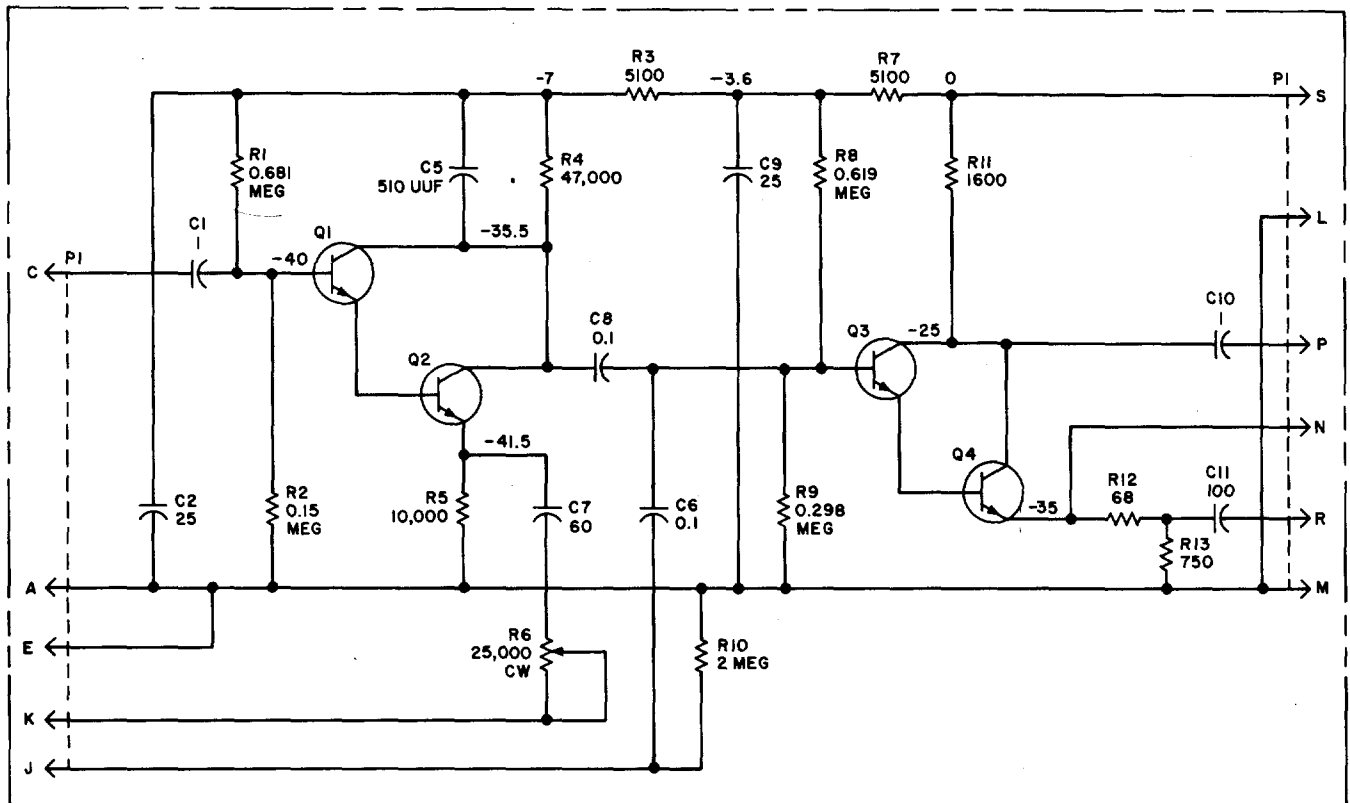

Fig. 2 — KS-19220, List 1 Amplifier — Schematic
**4.01** A schematic of the KS-19220, L1 amplifier is shown in Fig. 2. This amplifier is a 2-stage RC-coupled amplifier employing two transistors in each stage in a Darlington configuration.